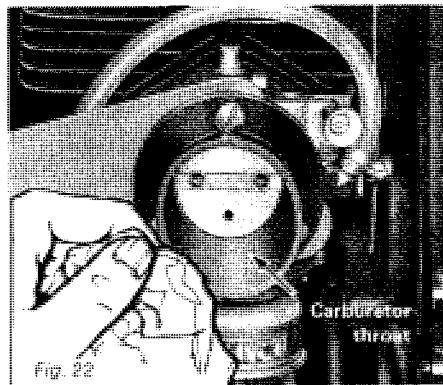

Fig. 22
2. Engage choke, (turn to ON), then pack the carburetor throat with a clean piece of cloth and turn the engine a few more times. The suction should eliminate the remaining fuel. (See Fig. 22).